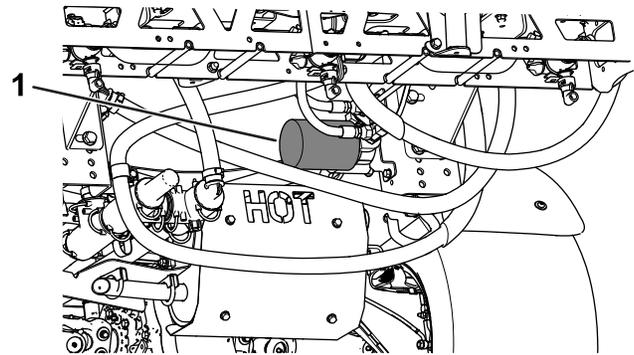

Figure 58
4. Remove the filter (Figure 58).